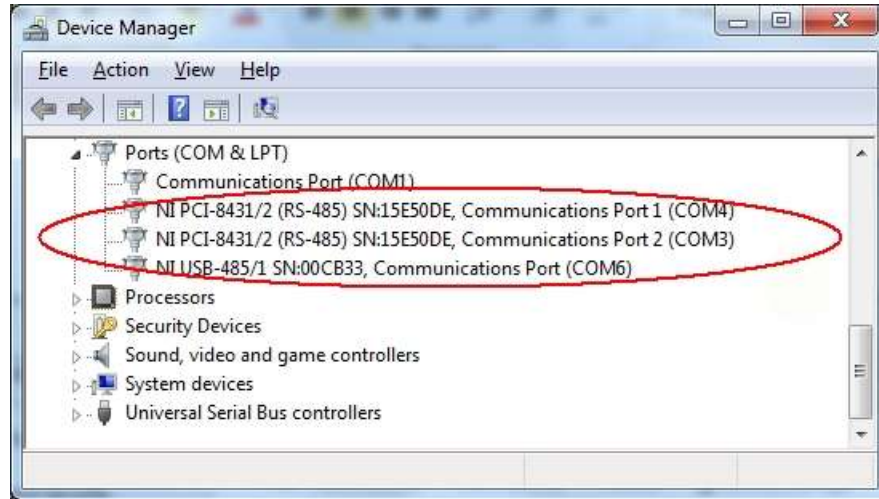

Figure 11: COM port assignments for PCI card and USB cable in Windows 7
4. Verify that the NI serial driver installation has completed successfully in the Device Manager. See *Control Panel -> Hardware and Sound*, or similar path, to locate this. An example for Device Manager in Windows 7 is shown in Figure 11